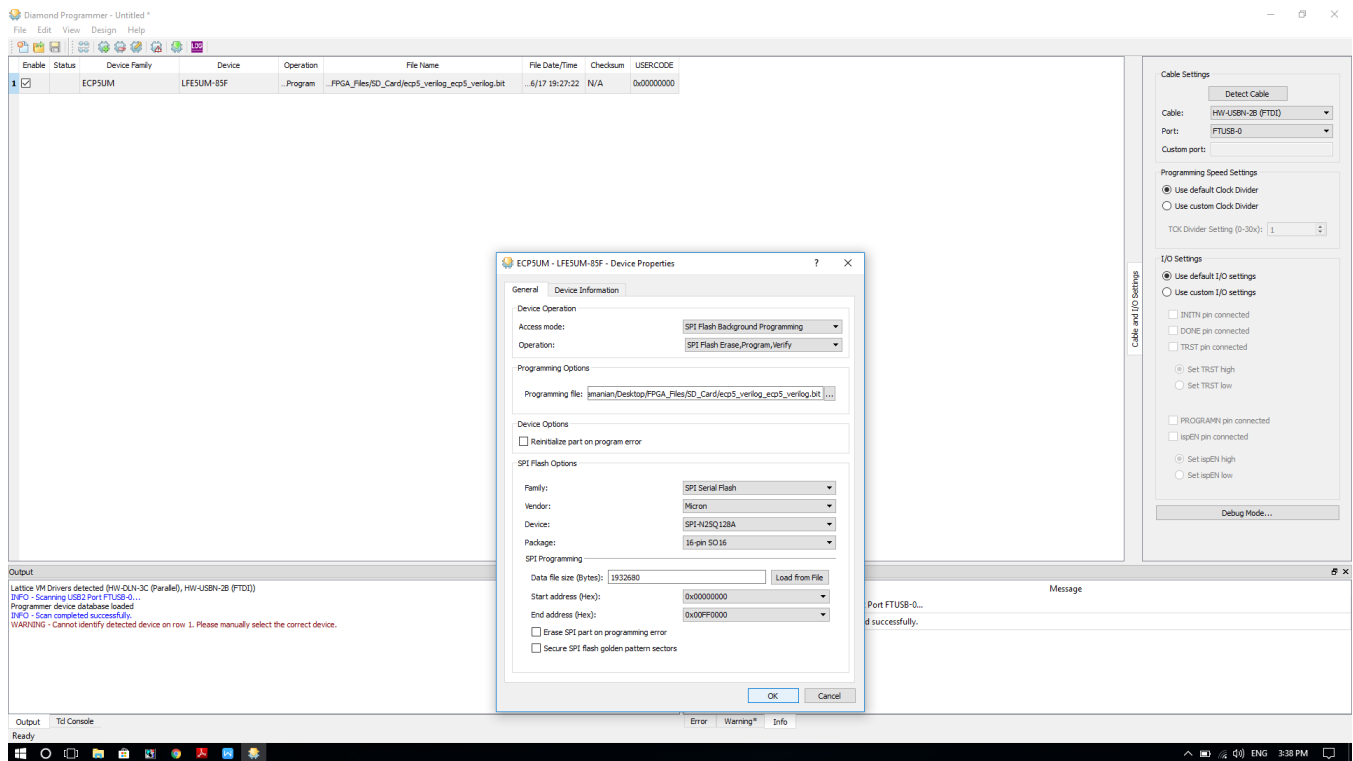

Figure 26. FPGA SPI Flash Programming
6. Click the Operation tab to open the window, as shown in Figure 26.